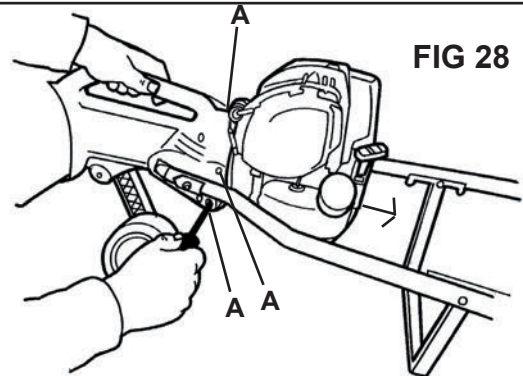

FIG 28
**NOTE:** If the motor has been removed. On refitting it is to be pushed fully into the tiller casing and three screws "A" Fig28(p.10) are screwed up tight. Misalignment due to incorrect fitting can cause clutch to engage at idle. To correct, loosen screws re-straighten motor and re-screw up equally three screws.
1. Preferably use a No.25 torx Screwdriver, loosen and remove 3 screws (A) located as shown fig. 28.
2. Pull engine away from body (Fig 28). It is **NOT** necessary to remove handles.
1. Remove engine (Fig 28).